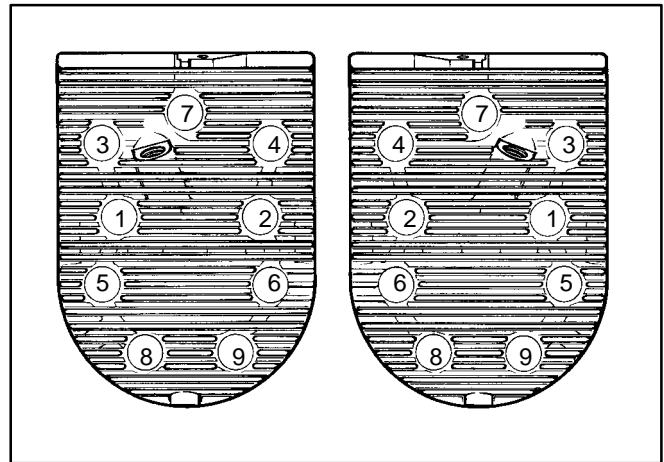

FIGURE 62. MODEL BGD CYLINDER HEAD BOLT TORQUE SEQUENCE
See Figures 62 and 63. Remove and clean the cylinder heads as follows when poor engine performance is noticed:
5. Place the heads in position and torque the head bolts in steps of 5 lbs-ft (7 N-m) in the numbered sequence shown in Figure 62 or 63 up to the specified torque of 15-17 lbs-ft (20-23 N-m).